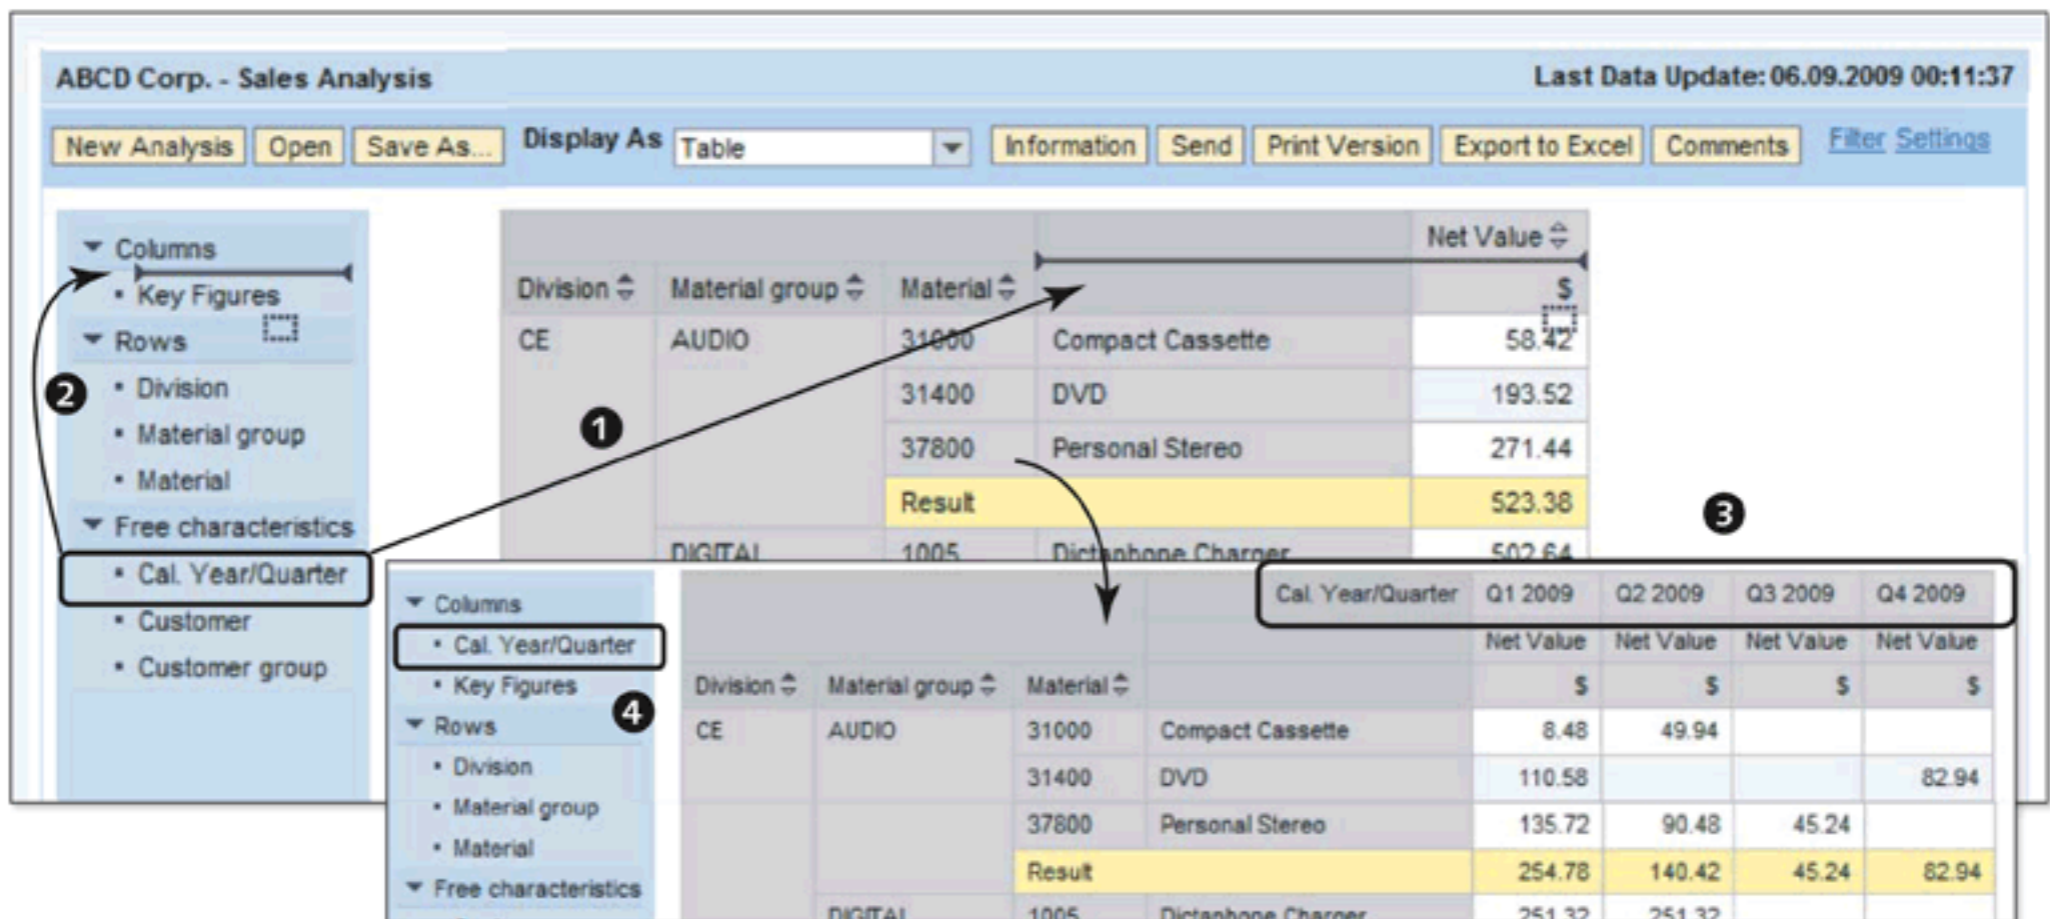

Figure 10.49 Navigation: Add Drilldown
To add a drilldown to the analysis (in rows or columns), you have to drag the relevant characteristic from the navigation pane and then drop it in the layout, as shown in ❶ of Figure 10.49. The same navigation can be achieved by placing the characteristic in the required section on the navigation pane (❷). In the example shown in Figure 10.49, the CAL YEAR/QUARTER characteristic is added to the columns (❸ and ❹).